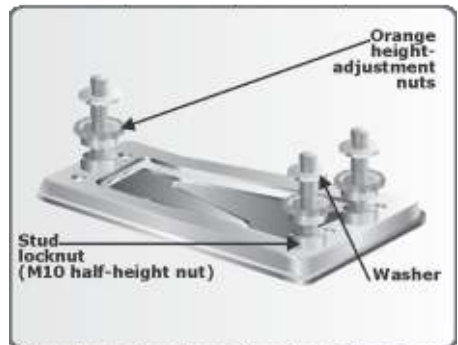

FIGURE 23.
4. Use the supplied full-height hold-down nuts to temporarily secure the plate in place from above as shown in Figure 23.